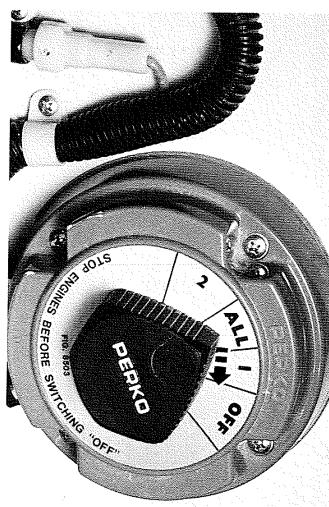

Figure 21
- 2. Put the battery main switch in the "Off" position. See figure 21.